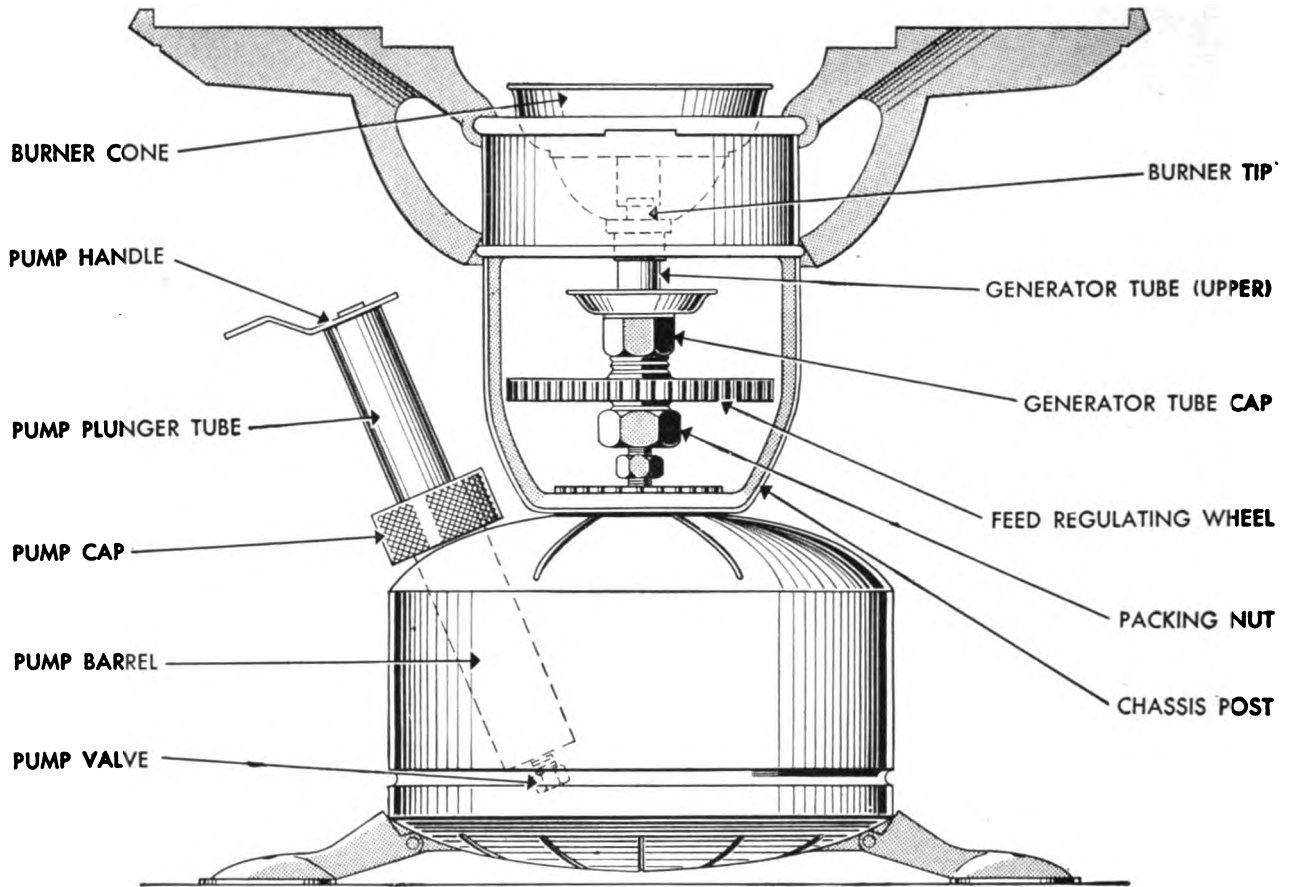

Figure 2. Detail of stove, cooking, gasoline, M1942, one-burner.
2. How to Light and Operate. (see figs. 2, 3, and 4)
b. To clean the tip, turn the feed regulating wheel (see Fig. 2) under the burner to the right as far as it will go. (See *g* and *h* below.)
3. Maintenance (see figs. 2, 3, and 4)